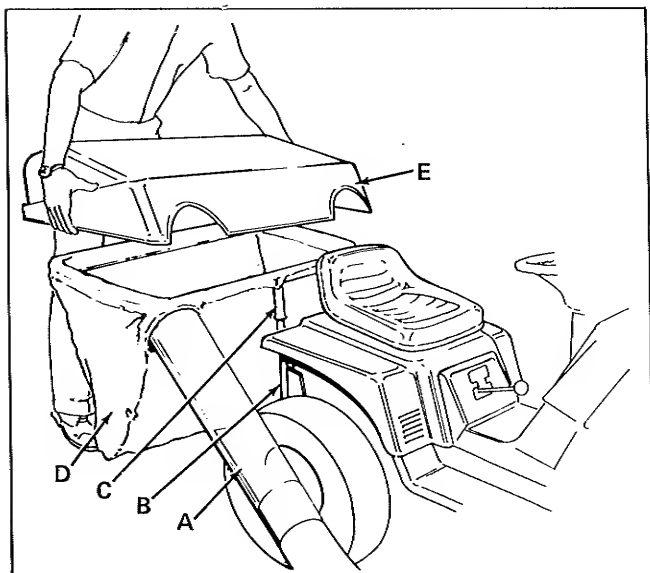
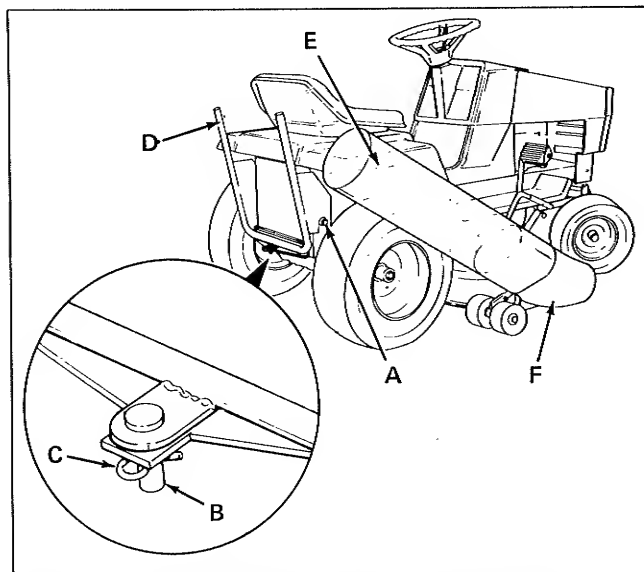
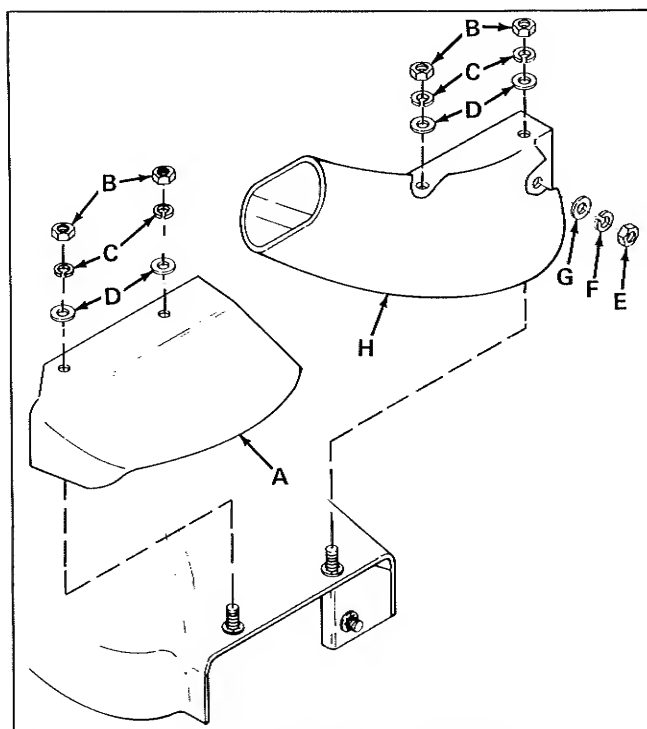

Figure 1. Install Bag & Cover
Figure 2. Install Hanger & Discharge Tube
Figure 3. Install Grass Catcher Adaptor
1. Lift cover (E, figure 1) off bag assembly (D). Clips on underside of cover will unlock from bag frame as you lift.
2. Lift bag assembly (D) off hanger, folding bag back as needed to clear grass discharge tube (A).
3. Remove spring clip (C, figure 2).
4. Lift hanger (D) off tractor. Then reinstall spring clip (C) in hole of pin (B) at bottom of hanger.
5. Slide grass discharge tube (E) up and off grass catcher adaptor (F).
6. Remove nuts, lockwashers and flat washers (B through G, figure 3). Then remove grass catcher adaptor (H) from mower.
1. Remove the deflector (A, figure 3). The deflector is held in place with two nuts, lockwashers and flat washers (B, C and D).
3. Place grass catcher adaptor (H) over bolts at mower discharge opening. Again install flat washers, lockwashers and nuts removed in steps 1 and 2 to hold adaptor in place.
4. Install hanger (D, figure 2) on tractor. Pin (B) at bottom of hanger fits into hole in tractor while slots on side of hanger fit over spacers (A).
5. Install a spring clip (C) through hole in end of pin (B).
6. Install grass discharge tube (E) with its screws on the bottom (facing down), over discharge tube of grass catcher adaptor (F). The tube should be installed so that the edge of tube (at seam) points away from tractor. This will aid flow of grass thru tube.
7. (See figure 1.) Install bag assembly (D) by slipping its tubes (C) over tubes (B) of hanger.
8. Slip grass discharge tube (A) into hole of bag assembly.
9. Position cover (E) over frame of bag assembly and push it down firmly so clips on underside of cover lock onto frame.